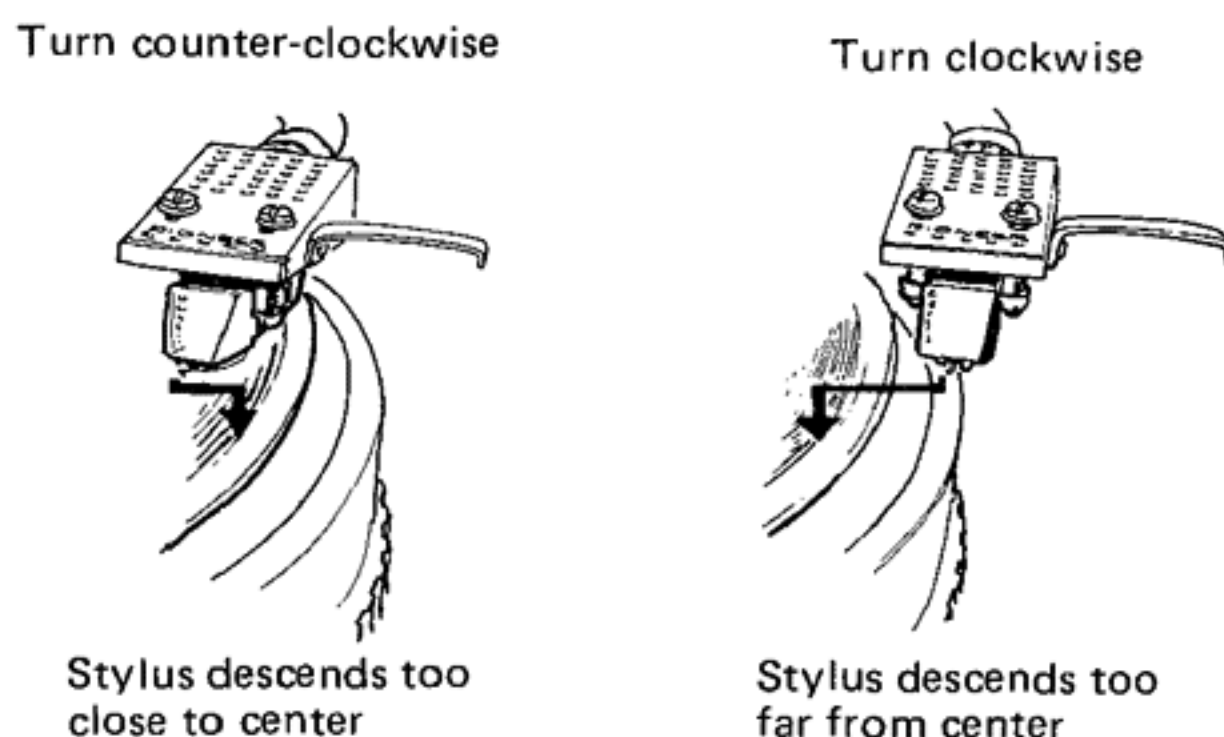

Fig. 22
4. When the direction and extent of the deviation are understood, turn the starting position adjusting screw with the accessory screwdriver, adjusting it as follows (Refer to Fig. 22):